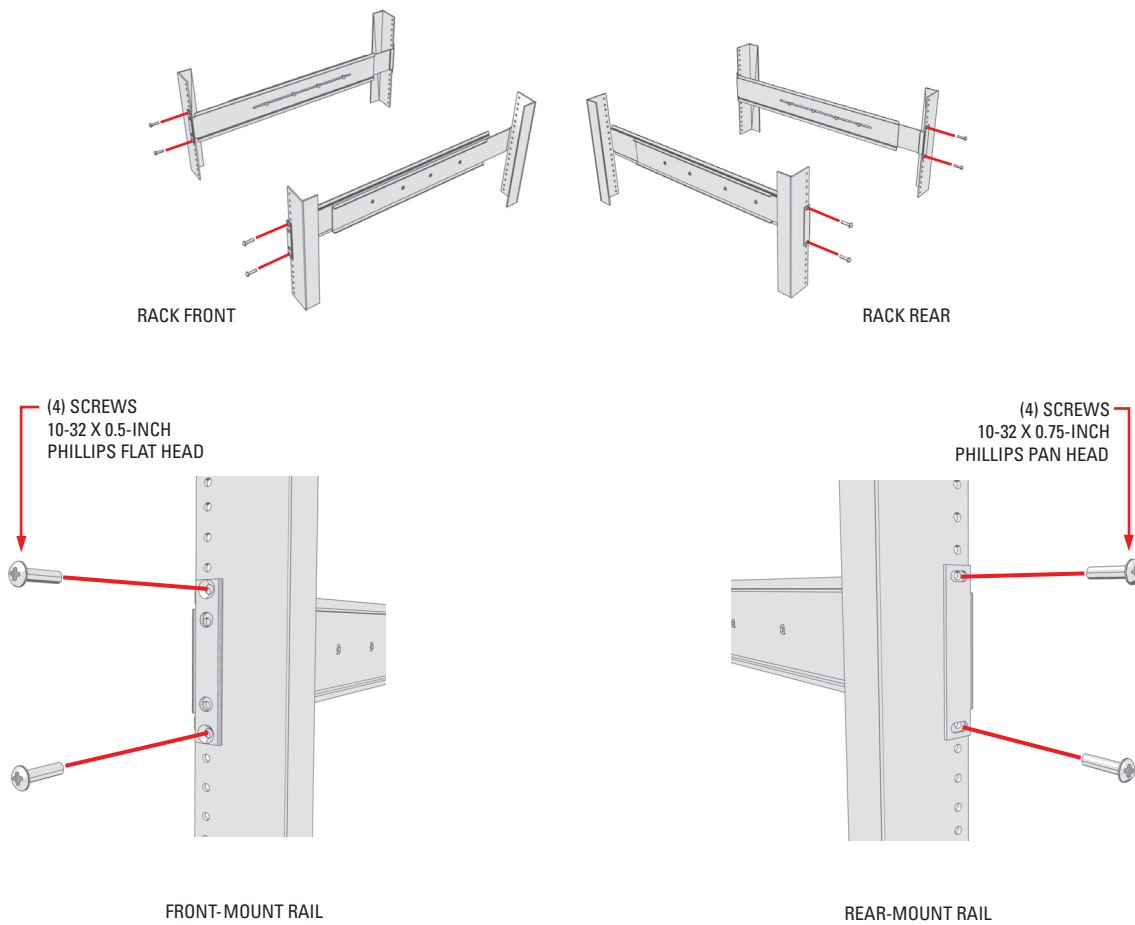

Figure 12. Attaching Support Rails
5. Attach one support rail assembly to the equipment rack in the desired location (refer to Figure 12):